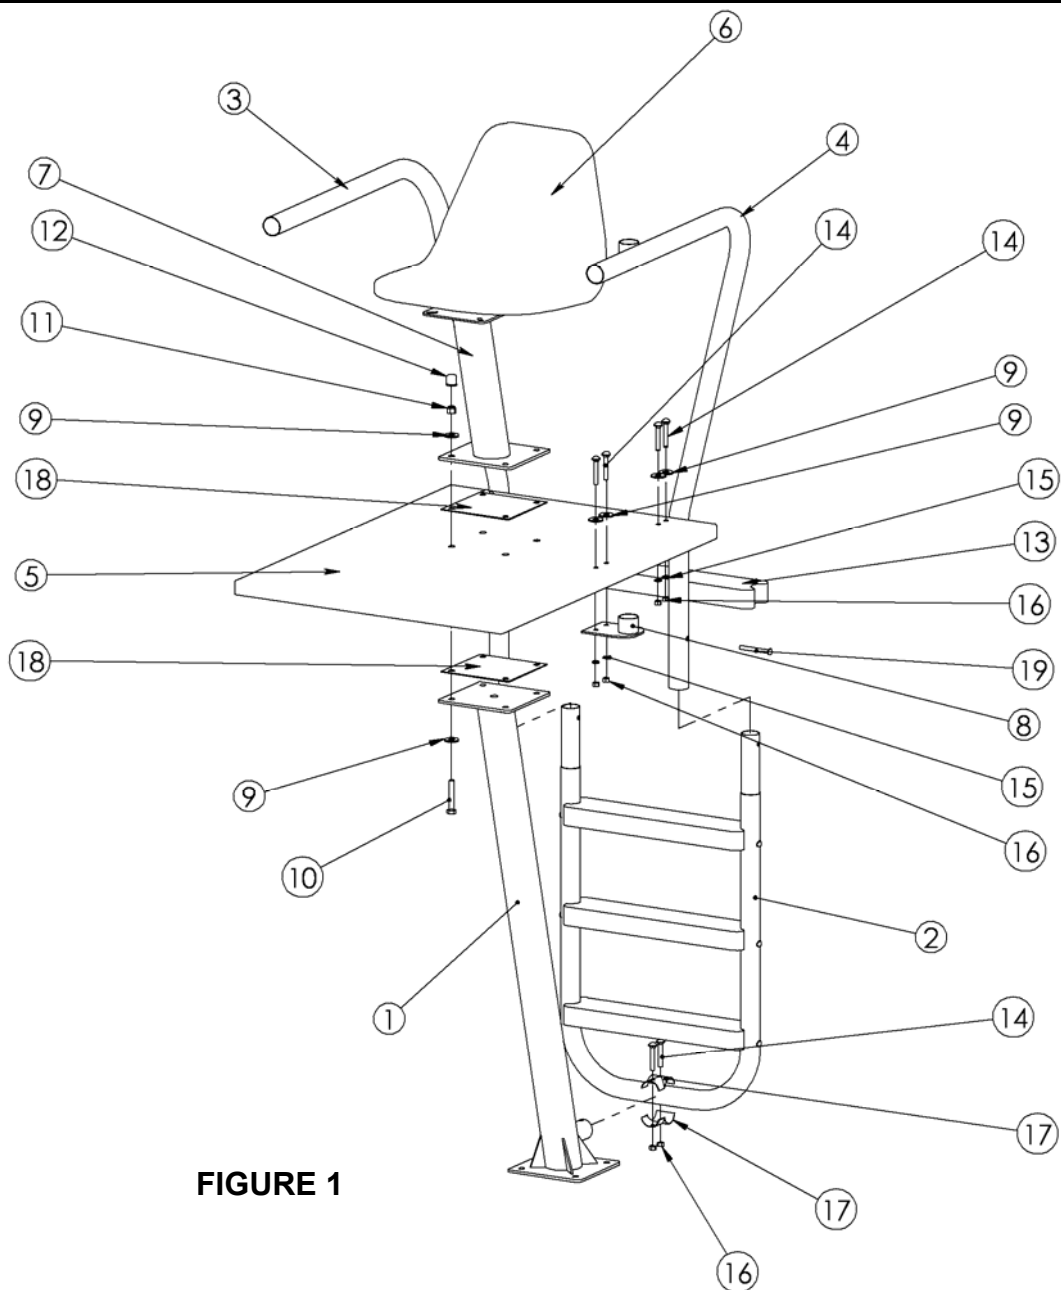

FIGURE 1
1. Begin by locating the main pedestal assembly as shown in **FIGURE 1**. Attach the main pedestal to the previously installed cage anchor using the (4) $\frac{1}{2}$ " hex head bolts and the four (4) $\frac{1}{2}$ " flat washers supplied with the anchor. **NOTE:** Do not tighten any hardware until final step.